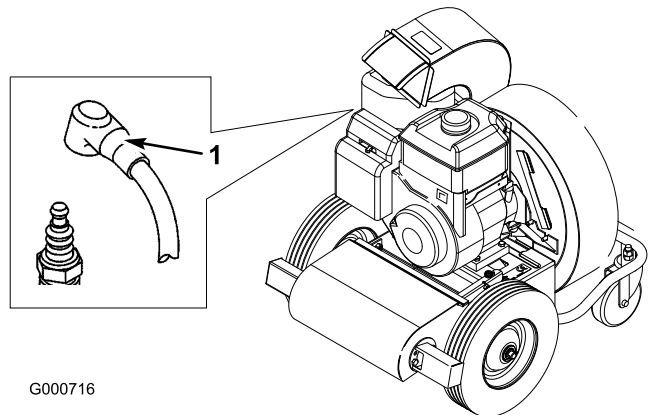

Figure 29
2. Pull the wire off of the spark plug (Figure 29).
3. Push the wire onto the spark plug (Figure 29).